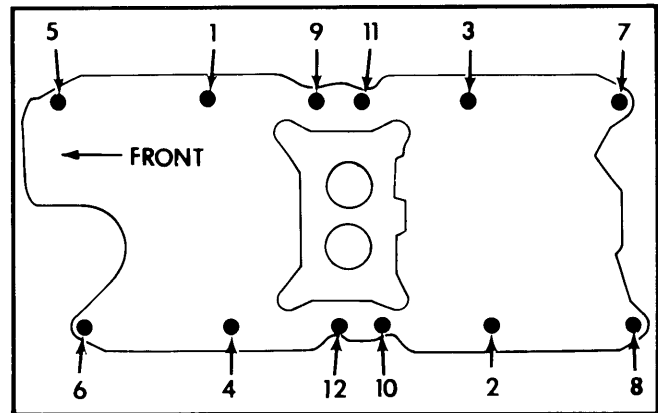

Fig. 1 Tightening Sequence for Intake Manifold
2) Lower manifold into position taking care not to misalign manifold gaskets. Install manifold bolts, tighten in two steps in sequence shown in Fig. 1. Reverse removal procedure to install remaining components. Warm engine to normal operating temperature, shut off engine, and retighten manifold bolts to specifications.